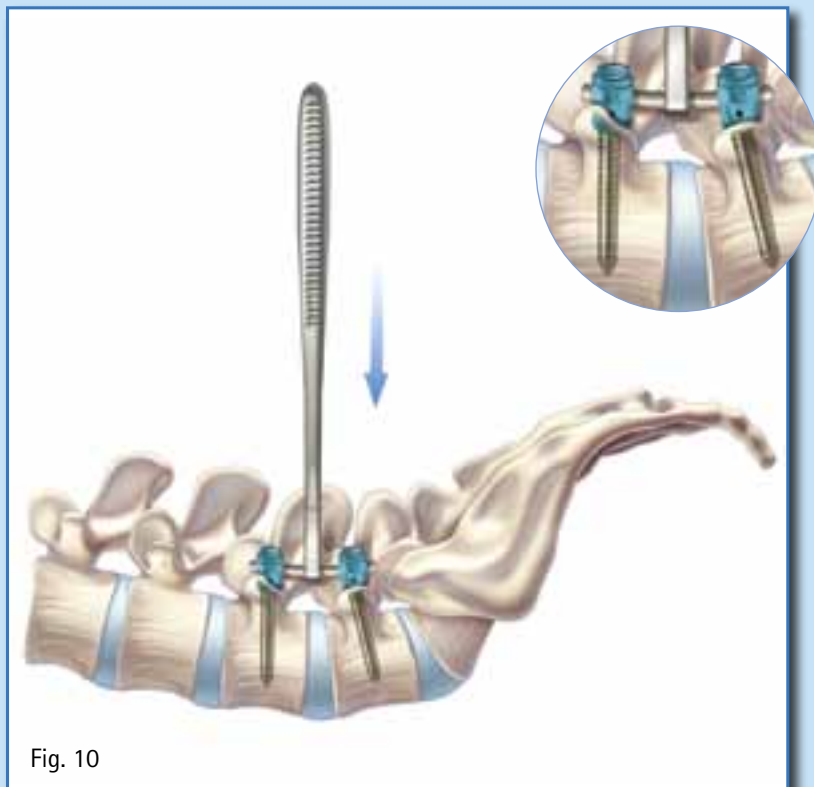

Fig. 10
- Use the rod holding forceps (FW012R) to assist with rod placement or rod manipulation. (Fig. 10)